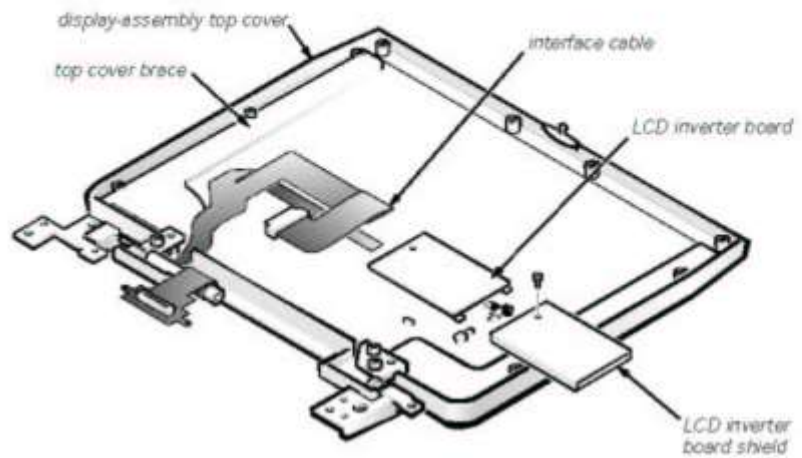

Figure 4-22. LCD Inverter Board Removal (13.3-Inch Display)
5. If you are removing the display-assembly interface cable from a 13.3-inch display, remove the left top-cover brace from the display-assembly top cover (see Figure 4-22).